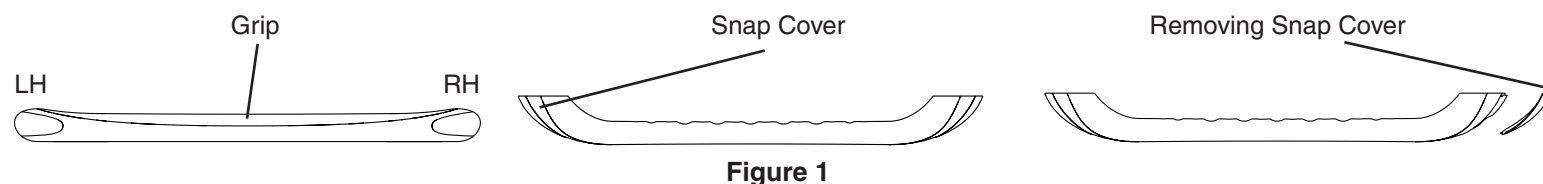

Figure 1
2. Determine where you want to install the grab bar. **Note: The soft grip should always face the palm of your hand (see Figure 1).**
3. Remove the snap cover from the bar by pulling straight out from the side (see Figure 1). **Note: Each snap cover is specific to a side. On the back of each snap cover, RH for right side or LH for left side is shown.**